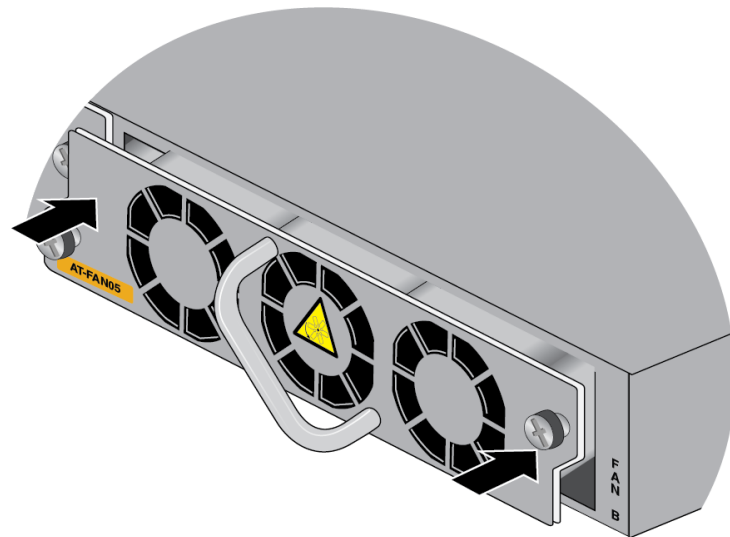

Figure 144. Seating the FAN05 Module on the Internal Connector
3. When you feel the module make contact with the internal connector, gently press on both sides to seat the module on the connector. Refer to Figure 144.